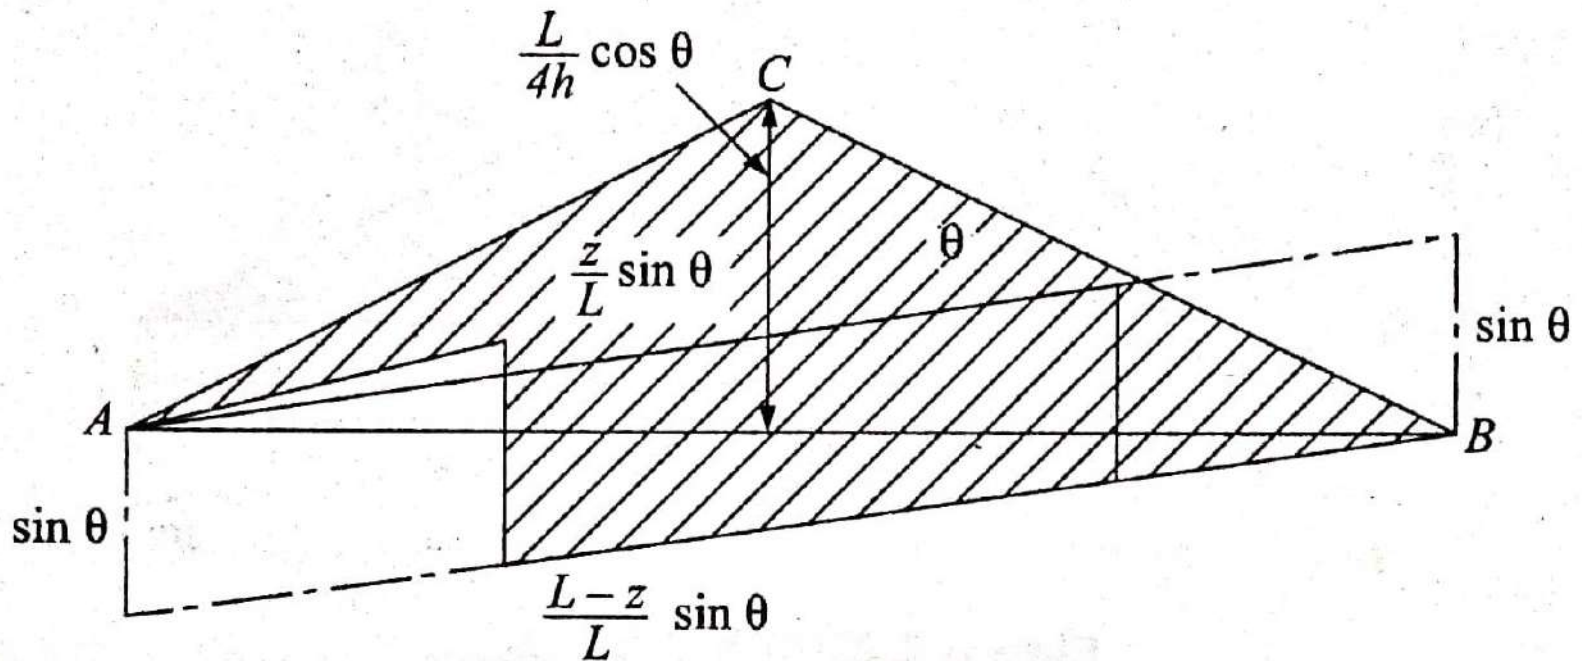

Figure 9: ILD for $N_D = V \sin \theta + H \cos \theta$
- To get ILD for normal thrust at D i.e. N_D , the diagrams are drawn in such a way that the addition is obtained by drawing ILD for $M \cos \theta$ on one side and drawing ILD for $V \sin \theta$ on the opposite side as shown in Figure 9.